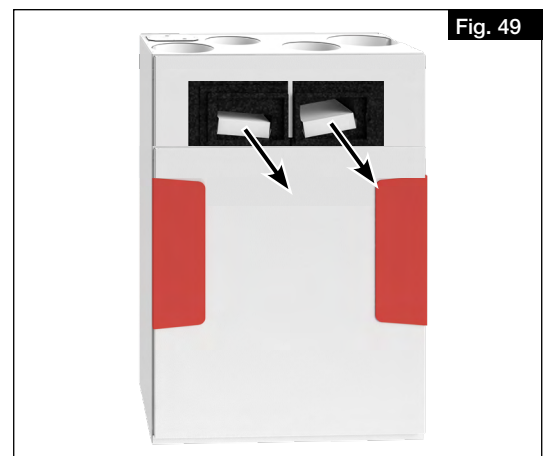

Fig. 49
2. Pull filter to the front and replace (see Fig. 49).